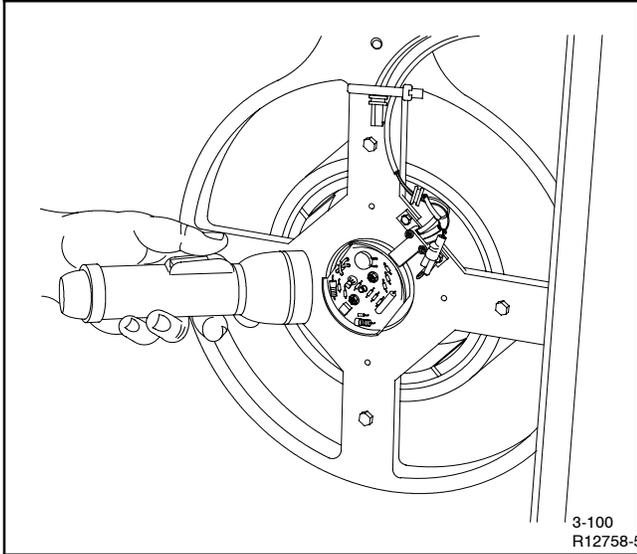

Figure 3-4 LED Flashlight Test
2. With the generator set running at no load, shine a flashlight on the exposed photo transistor board. See Figure 3-4.